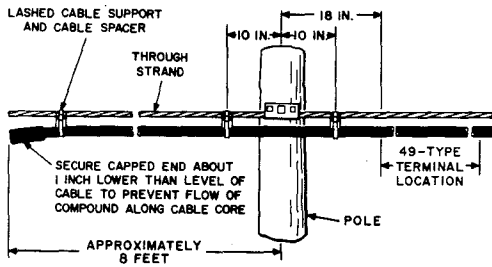

Fig. 3—Capped Cable on Through Strand—Cable to be Extended
4.03 ▶Extension of the cable beyond the pole, as shown in Fig. 3 and 4, is *not* required unless the cable is to be extended.▶